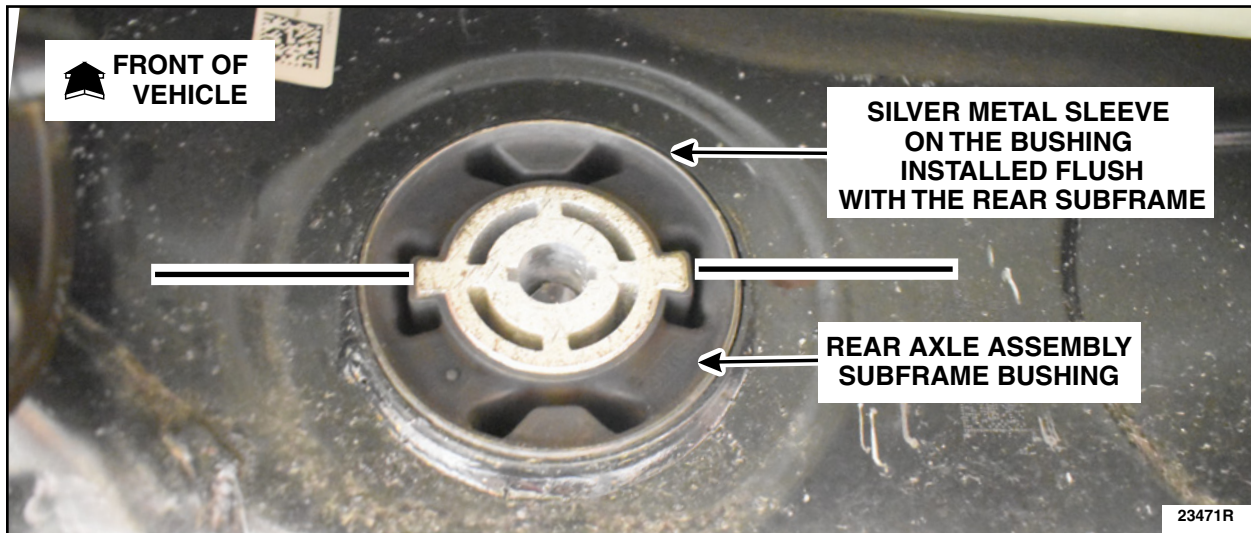

FIGURE 18
NOTE: Make sure the tabs on the *new* rear axle assembly subframe bushing are horizontal with the subframe. See Figure 18.
25. *Using the ESST tools listed below*, install the *new* rear axle assembly subframe bushing. See Figures 18 and 19.